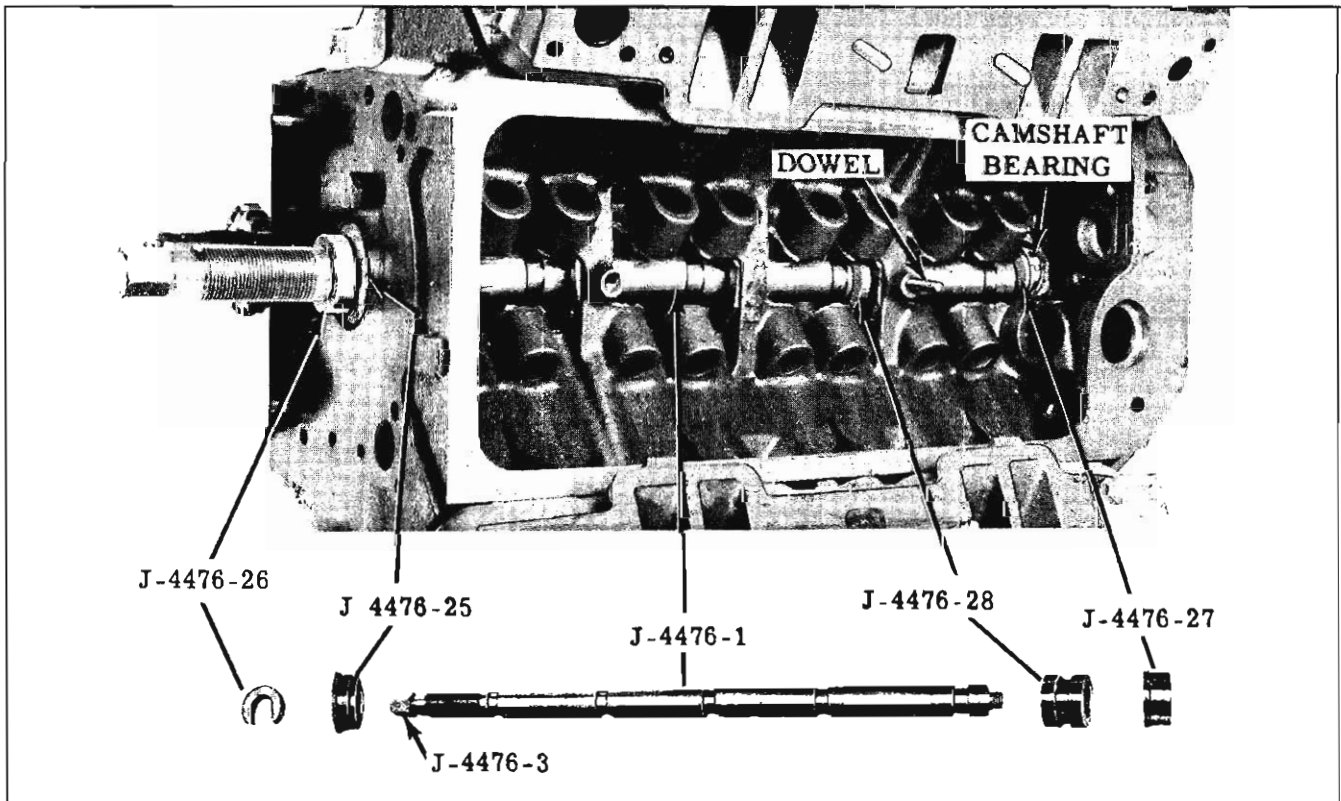

Fig. 3-42 Installing No. 5 Camshaft Bearing
- a. Assemble tools as shown in Fig. 3-42 and insert into engine block so that Installer J-4476-27 is past the No. 4 bearing opening.